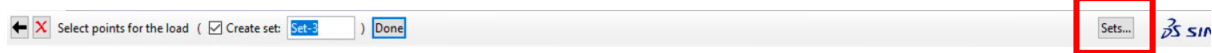

Figure 2-5 – Prompt area and access to predefined sets (button inside red box).
7. In the prompt area (see Figure 2-5), open the predefined sets by clicking the button **Sets...**